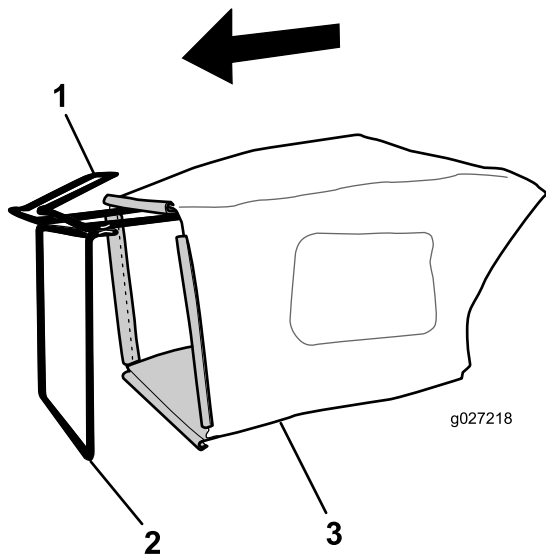

Figure 7
1. Slip the grass bag over the frame as shown in Figure 7.
Note: Do not slip the bag over the handle (Figure 7).